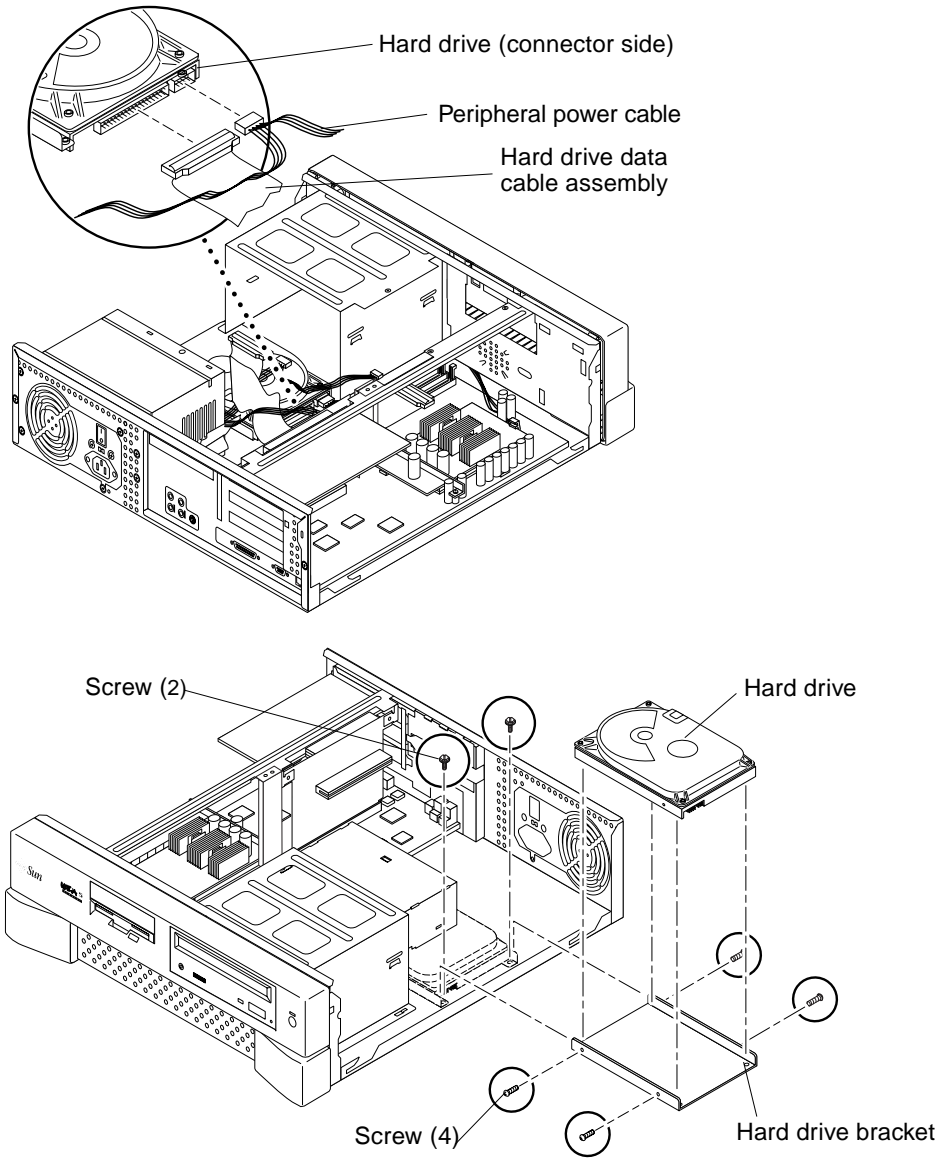

FIGURE 10 Installing or Replacing the Rear Hard Drive (Ultra 5)
1. **Remove the existing hard drive from the Ultra 5 system as follows (if you are not replacing an existing hard drive, start with Step 2.) See FIGURE 10.**
2. **Install the new hard drive into the Ultra 5 system as follows (FIGURE 10):**